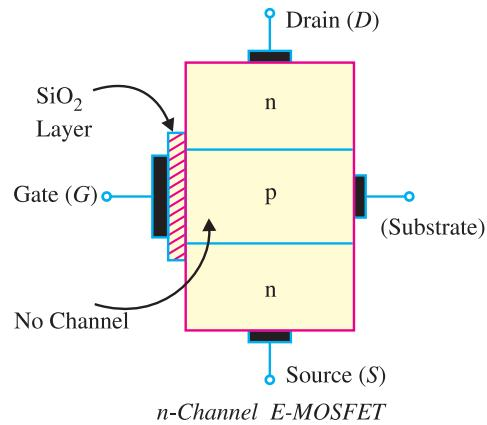

Fig. 19.44
2. E-MOSFET. Fig. 19.44 shows the constructional details of *n*-channel E-MOSFET. Its gate construction is similar to that of D-MOSFET. The E-MOSFET has no channel between source and drain unlike the D-MOSFET. Note that the substrate extends completely to the SiO₂ layer so that no channel exists. The E-MOSFET requires a proper gate voltage to *form* a channel (called induced channel). It is reminded that E-MOSFET can be operated *only* in enhancement mode. In short, the construction of E-MOSFET is quite similar to that of the D-MOSFET except for the absence of a channel between the drain and source terminals.